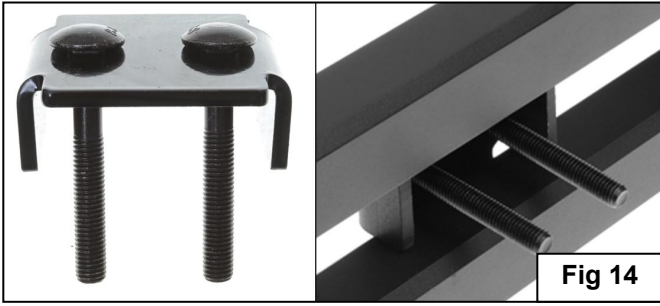
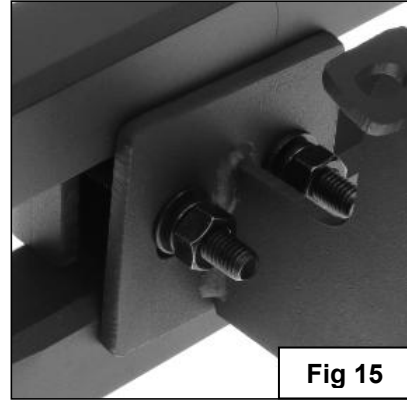

Fig 14
Fig 15
10. Select the Driver Side Bar. Slip (2) M10X1.5-75 Carriage Bolts into each 2-Hole Support Brackets ,and insert the 2-Hole support bracket into the Driver Side Bar.(**Fig 14**). Carefully position the Bar onto the (3) Mounting Brackets. **IMPORTANT:** Do not slide the Bar on the Brackets or damage to the finish may result. Attach the Driver Side Bar to the Mounting Brackets with (2) M10 Hex Nuts,(2)M10 lock washers and (2)M10 flat washers, (**Fig 15**). Do not tighten hardware.